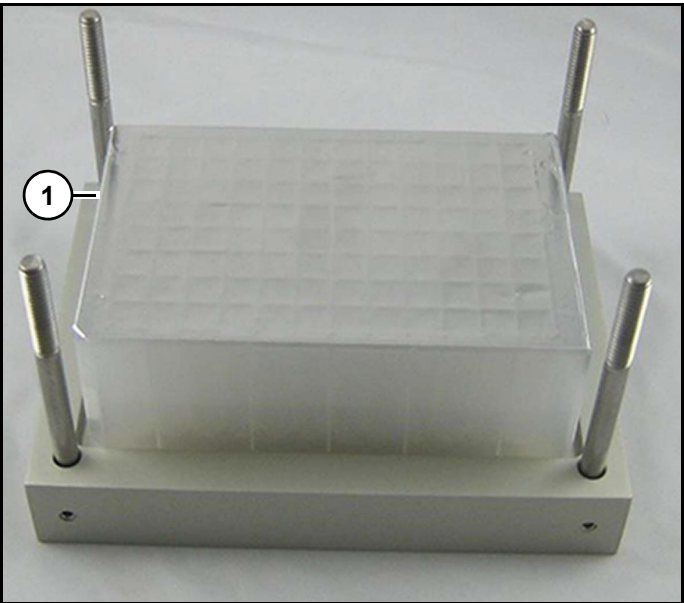

Figure 113
3. Place 96 well plate (1) (Figure 113) into bottom of deprotection chuck.